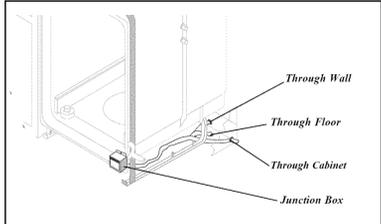

Figure 11
1. Remove junction box cover and pull house wiring into junction box. See Figures 11 and 12.